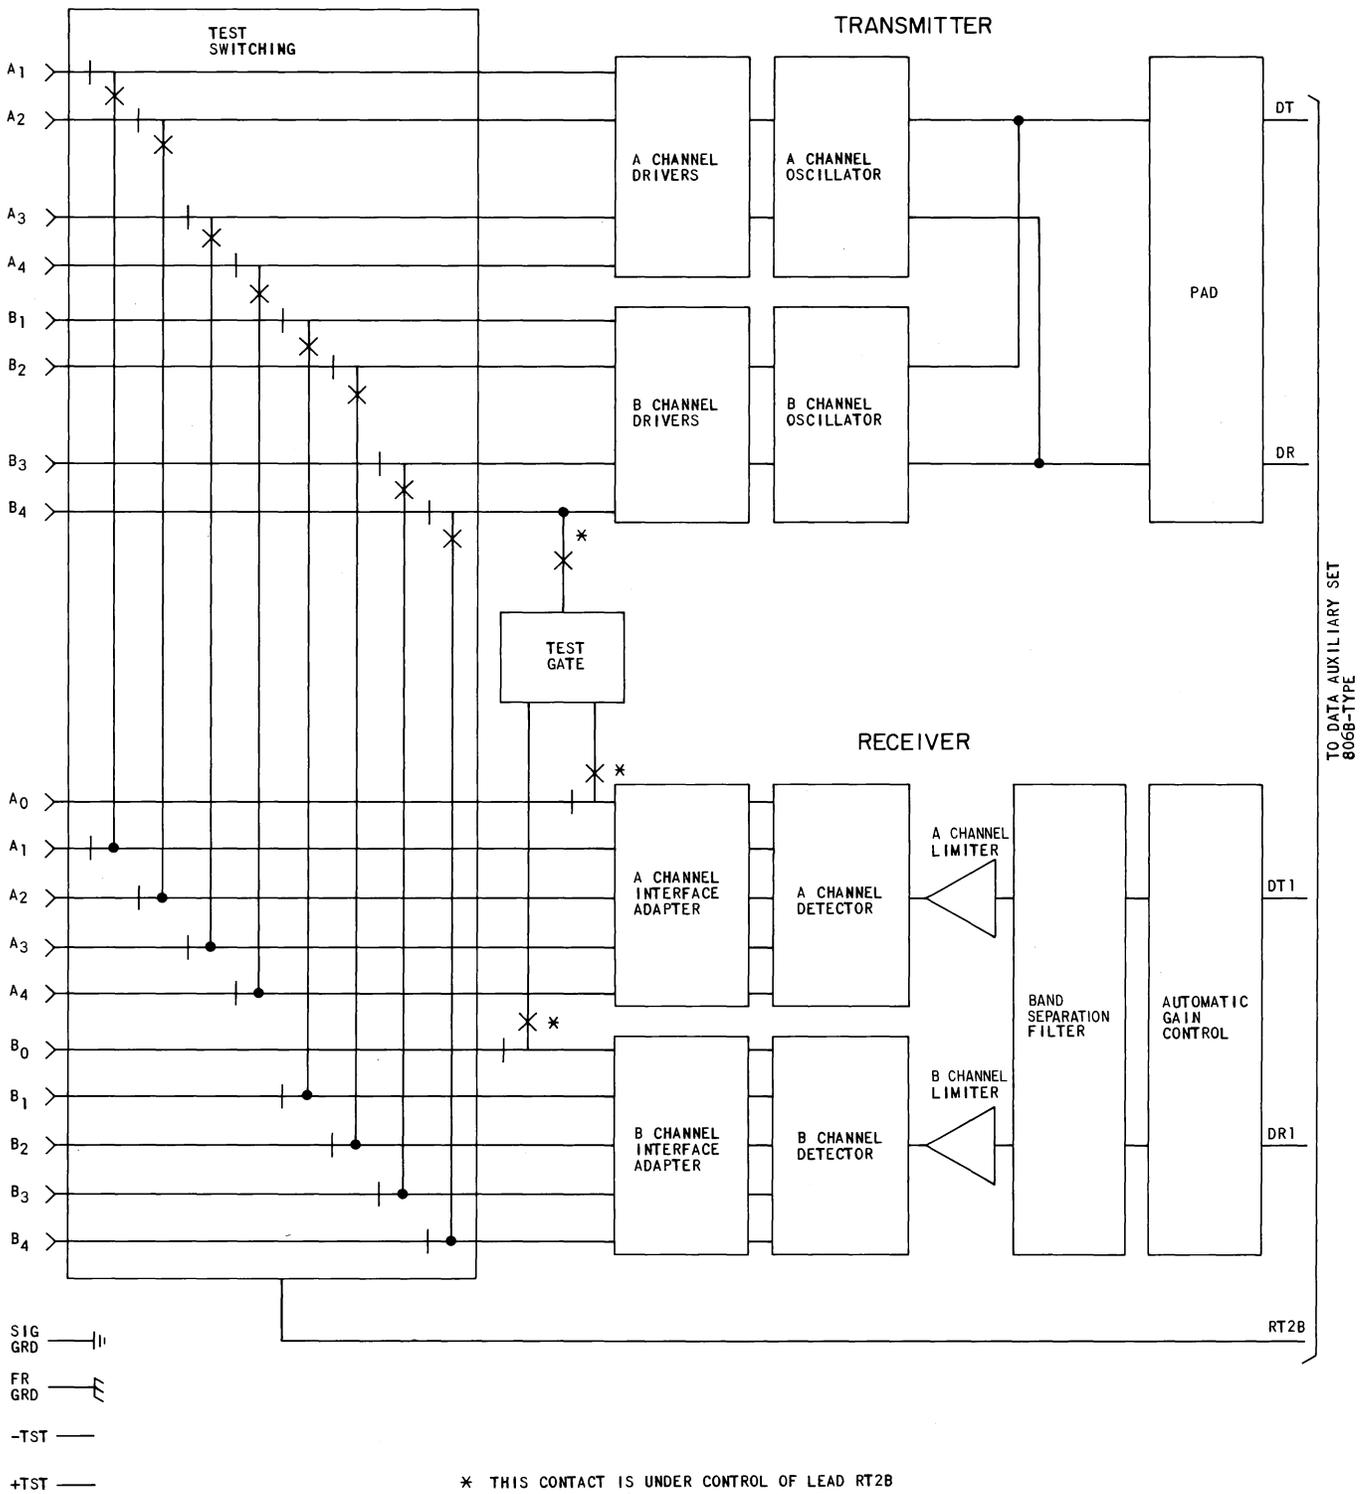

Fig. 3—Data Set 404B—Block Diagram
3.01 The transmitter section of DS 404B1 has two channel oscillators with associated drivers and transmitter line pad. Figure 3 is a block diagram of the transmitter section of DS 404B.
3.07 The receiver section of DS 404B1 converts the multifrequency line signal into voltage signals which are usable at the customer interface. The receiver consists of 5 parts: an AGC amplifier, a band-separation filter, a limiter, detector circuits, and the A and B channel EIA interface adapter and test gate (Fig. 3).